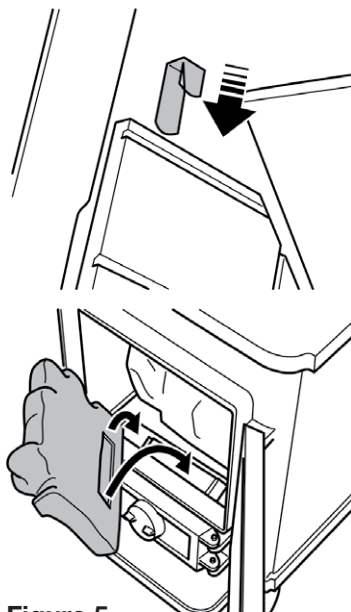

Figure 5
7. On the front of the burner there is a bracket for supporting the front ceramic base. At the rear of the front ceramic base is a recess. Fit the front ceramic base piece locating the recess onto the forward projecting part of the burner bracket (See figure 5).